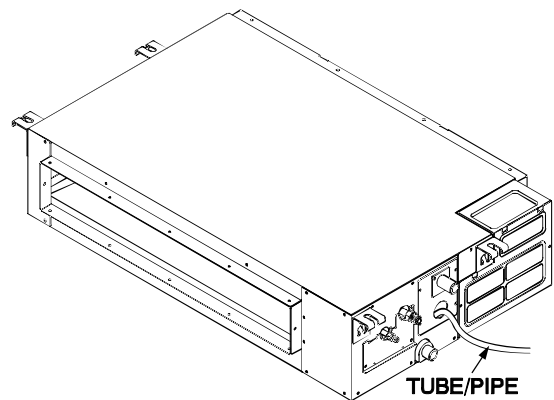

Fig. 50 — Tube Pipe Insert
2. Using a piece of tubing or pipe to fill the condensate lift pump reservoir with 70 oz. of water (see Fig. 50).